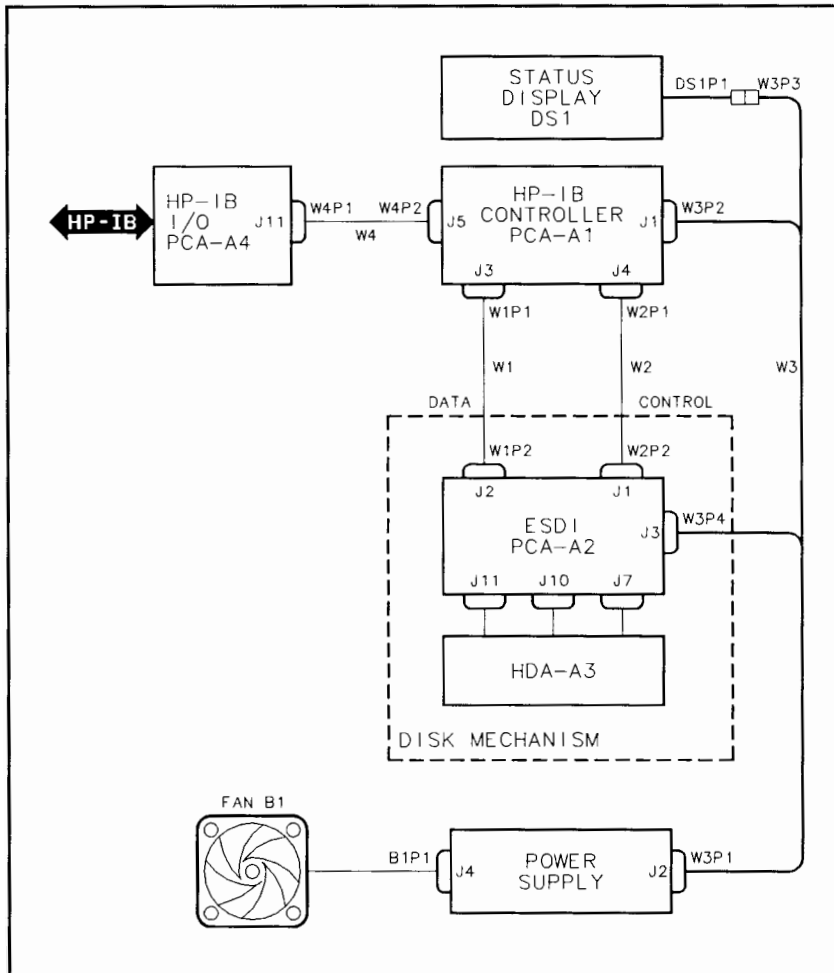
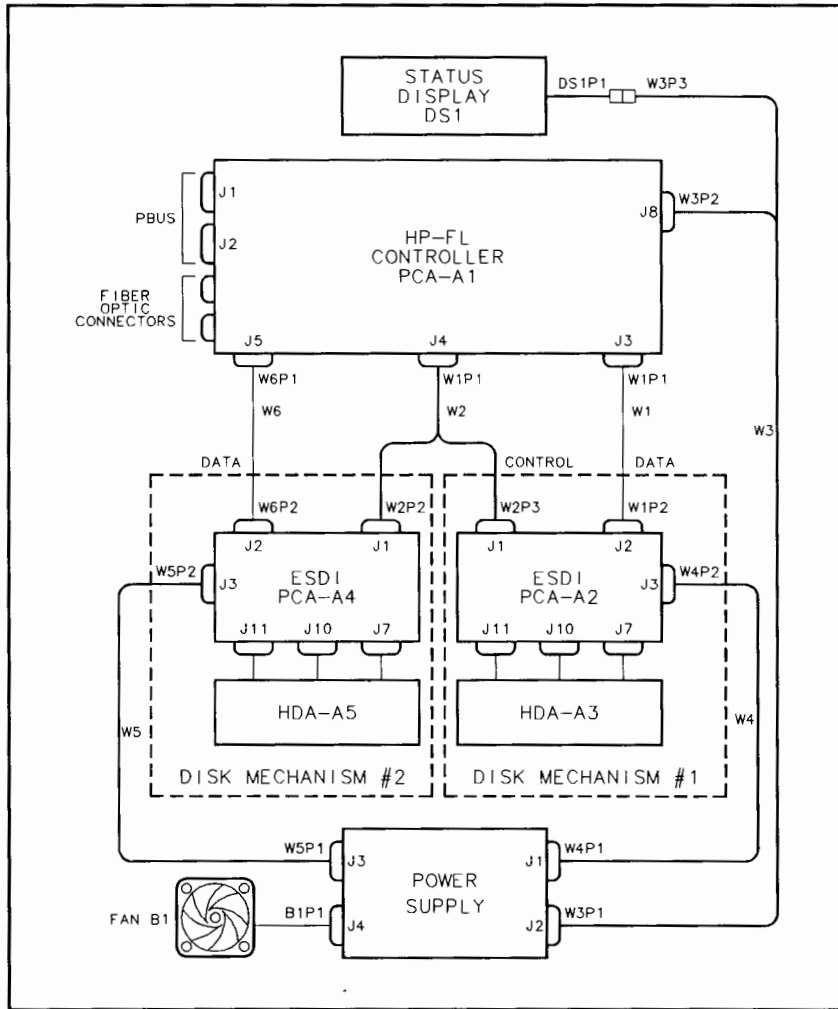

Figure 4-12. 335H and 670H Cabling
Figure 4-15. 1.34FL Cabling
Before replacing any FRA, check all cabling inside the disk storage system for proper connections. The cabling for each model disk storage system is shown in Figure 4-12 through Figure 4-15.
- On dual-mechanism 1.34FL model products, the ESDI data cables must be connected to the proper connectors on the controller PCA. Disk mechanism 1 must be connected to data port 1 (J3) on the HP-FL controller PCA, and disk mechanism 2 must be connected to data port 2 (J5). See Figure 4-15. If the connectors are inadvertently swapped, self-test will fail with a disk mechanism fault.